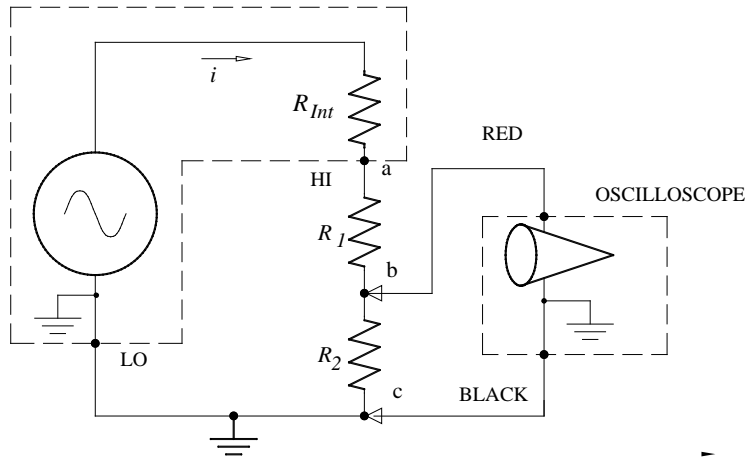
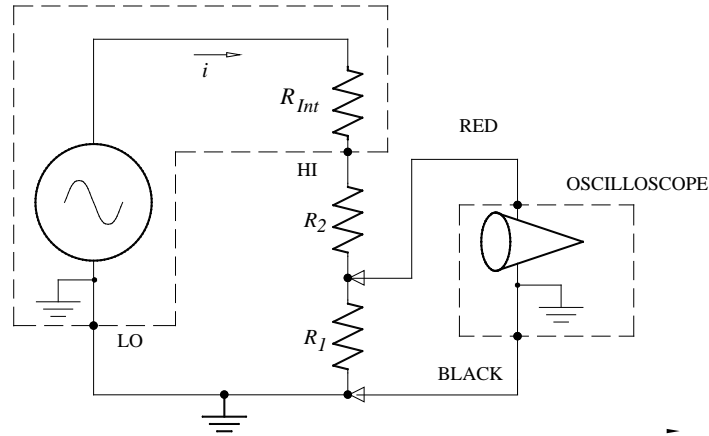

Figure 9 Diagram showing how to measure voltage across R_2 .
Figure 10 Diagram showing how resistor positions are exchanged to measure V_{R1} and V_{R2} .
14) Change the leads on the oscilloscope to measure the voltage across R_2 as shown in Figure 9. Use the CURSOR and MEASURE Menus to measure and record V_{R_2} .
15) In order to measure V_{R_1} it is necessary to exchange the places of R_1 and R_2 in the circuit as shown in Figure 10. To see why it is necessary to swap the places of the resistors, look at Figure 9. If the black lead of the oscilloscope were placed at (b) and the red lead at (a), then point (c) and point (b) would both be at ground (zero volts). Resistor R_2 would be "shorted" by the internal connections to ground in the oscilloscope and the function generator; this would effectively remove R_2 from the circuit, leaving only R_1 .